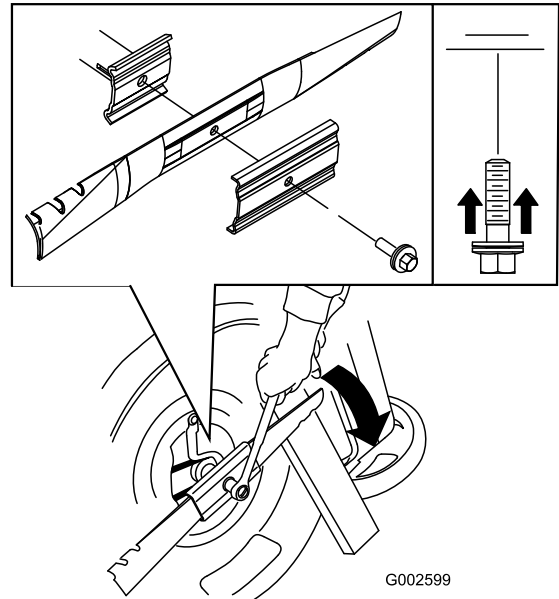

Figure 23
5. Install the new blade (turn the blade bolt clockwise) and all mounting hardware (Figure 23).